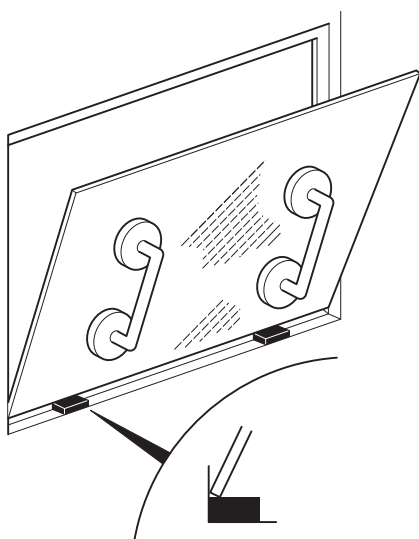

Fig 16.
- b Sit the bottom edge of the glass on the spacer blocks. ⇒ Fig 16. \(□ B-47\)